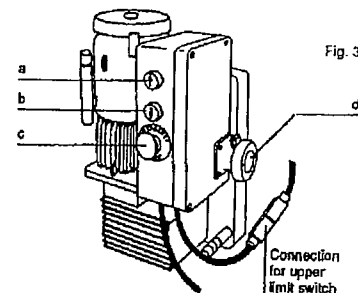

Fig. 3
- c. Fix the frame supports (6) for the buckets. Fit the 2 buckets (5).
- d. Fit the BLOCSTOP BSO (7) to the mast (1).
- e. Fix the upper limit switch(es) (8 / 8.1) to the top of the mast (1). Connect it/them to the control box of the TIRAK hoist (Fig. 3).